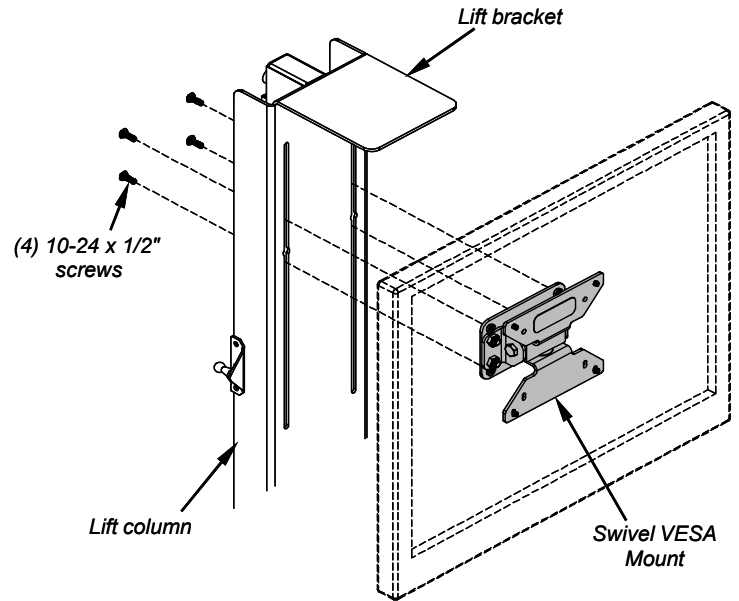

Figure 3B
- D. Attach the swivel VESA mount and monitor to the lift column with (4) 10-24 x 1/2" screws as shown in **Figure 3B.**